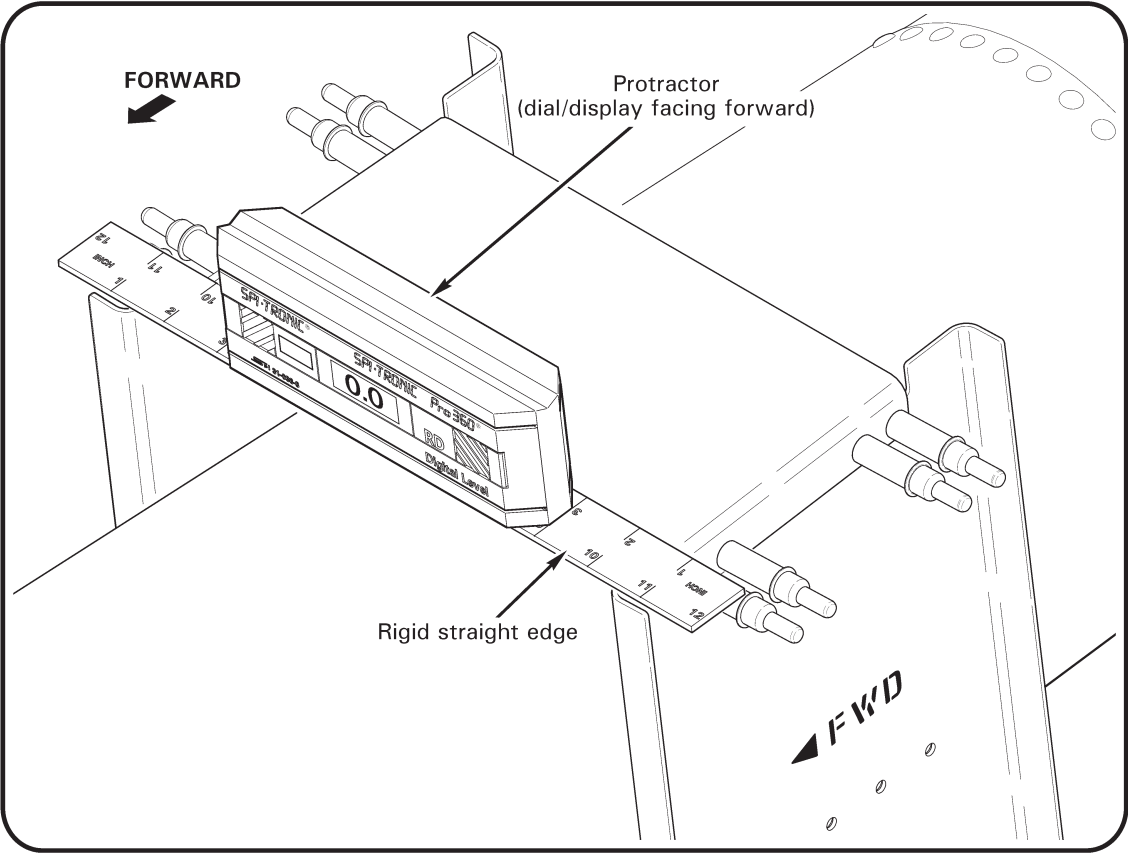

FIGURE 4 Leveling MT830 Locator tool
6. Refer to Figure 4. With dial/display facing forward, place protractor laterally across forward posts of MT830-1 bracket as shown and verify locator tool is level (use straight edge atop posts if protractor cannot contact both posts). As required, rotate locator tool on tailcone by lightly tapping with a rubber or plastic mallet, until protractor indicates level/zero. Repeat procedure with protractor placed laterally across aft posts.